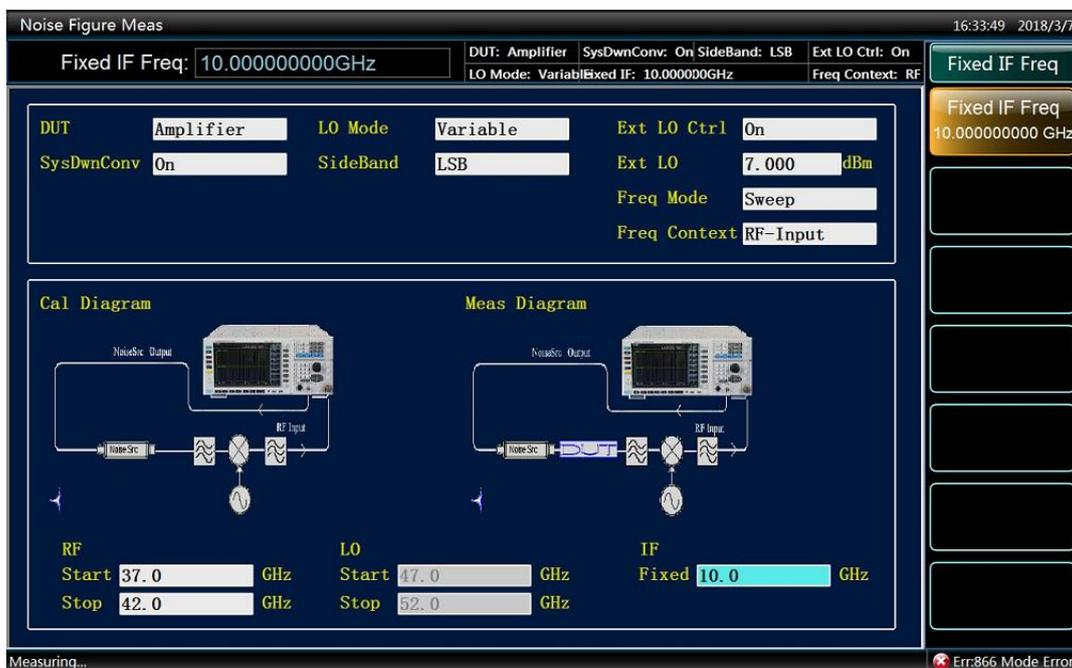

Fig. 4.42 Setting Interface of System downconverter Mode
- Step 10.** Activate the fixed IF frequency input box, input "10" with the numeric key, and press [GHz] unit key to complete the input. The mode setup interface is as shown in Fig.4.42.